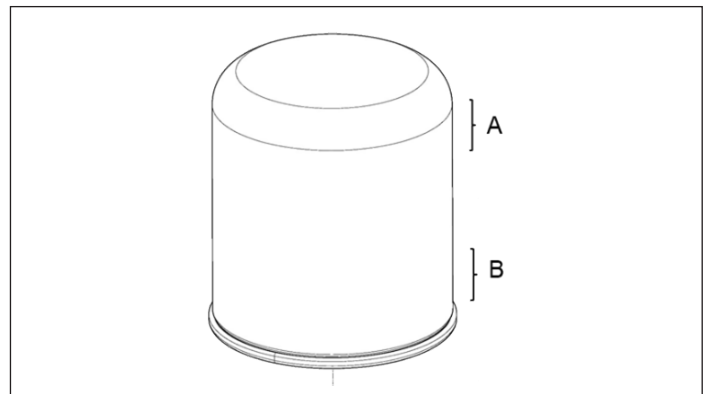

Figure 2 – Desiccant Cartridge Filter Wrench Placement
3. Remove and retain the five (5) M12 mounting bolts that secure the air dryer and attached core module to the vehicle.
**NOTE:** If using a filter wrench, place the filter wrench on areas *A* or *B* as shown in *Figure 2* to avoid damage to the cartridge. If a filter wrench is used in the middle of the cartridge, damage may occur.
3. Remove and retain the three (3) M12 mounting bolts that secure the core module to the vehicle.
**NOTE:** Place the filter wrench only on areas A or B as shown in *Figure 2* to avoid damage to the cartridge.
8. Secure the core module to the vehicle using the five (5) original M12 mounting bolts that were removed during disassembly. Torque to 55 ft-lbs (75 N•m).